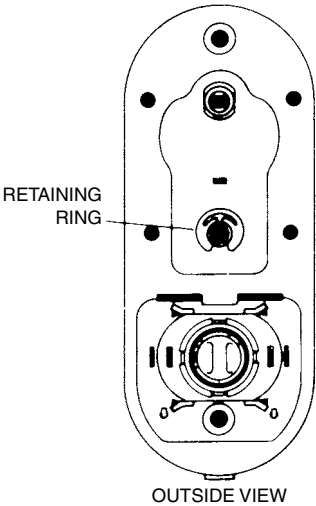

Figure 13.80 Changing hand, Step 11.
11. Install the retaining ring (Fig. 13.80).